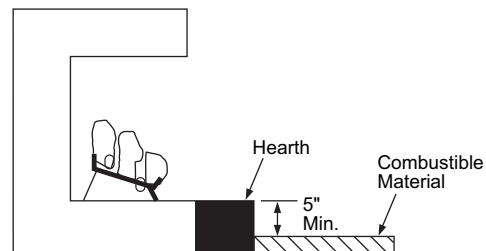

Figure 9 - Minimum Fireplace Clearances Above Combustible Flooring
- If combustible materials are less than 14" to the fireplace, you must install appliance at least 5" above the top surface of combustible flooring including tile and carpet (see **Figure 9**).